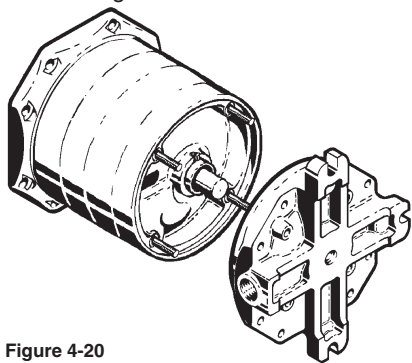

Figure 4-20
17. Install one (1) "O" Ring (#8) on each of the four Guide Rods (#18)
- c. With the "O"Ring facing the last channel ring, slide the Outlet Cover (#2) over the Guide Rods. The outlet port should be oriented 180° from the inlet port on close coupled units. The outlet port should be oriented on the same side as the inlet port on horizontal units. Push on firmly until the "O"Ring fits inside the lip of the channel ring. Refer to figure 4-20.
22. Install one (1) "O"Ring (#8) on each of the four Guide Rods (#18)
- With the "O"Ring facing the last channel ring, slide the Outlet Cover (#2) over the Guide Rods. The outlet port should be oriented 180° from the inlet port on close coupled units. The outlet port should be oriented on the same side as the inlet port on horizontal units. Push on firmly until the "O"Ring fits inside the lip of the channel ring. Refer to Figure 4-20.
25. Insert the eight (8) Thru Bolts (#19) through the holes in the outlet cover and the inlet cover. Thread one (1) Nut (#20) on each of the eight Thru Bolts and on the end of each Guide Rod (#18). Using two 9/16" wrenches or sockets, tighten the bolts/nuts systematically, alternating